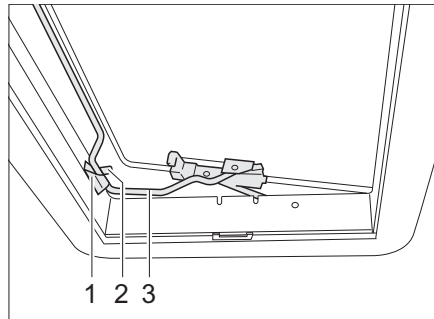

Fig. 52 Heki skylight in ventilation position 2
- Insert the bar (Fig. 52,3) into the holder (Fig. 52,1).
- Place the lever (Fig. 52,2) over the bar.